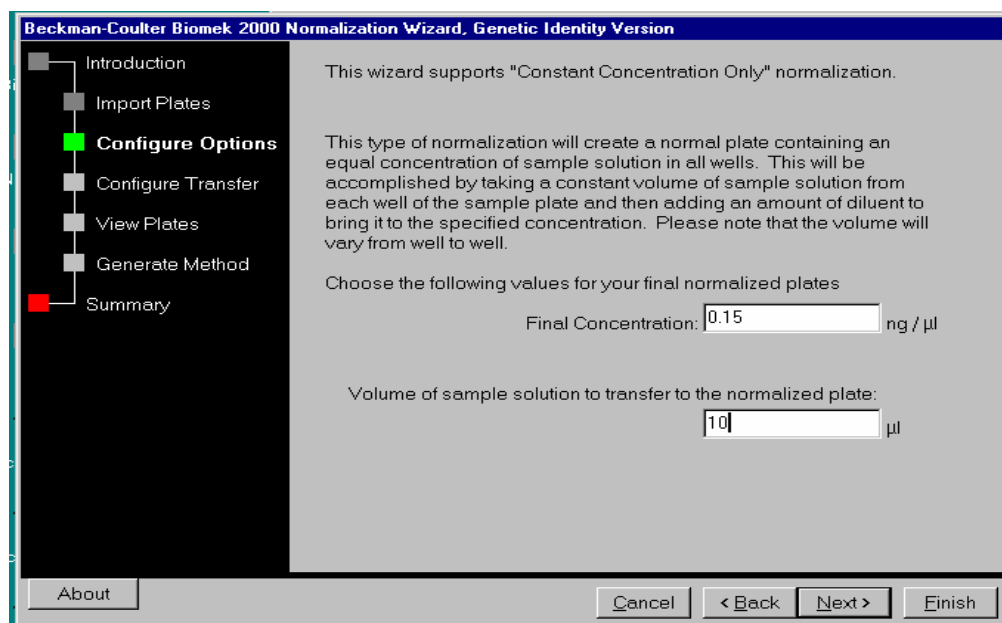

Figure 7. Settings for Final DNA Concentration and the Sample Volume.
- 5.5.3 Change the Final Concentration and the Sample Volume from a target of 0.15 to 0.20 ng/μL for the concentration field and 8 to 10 μL for the volume field as shown in the boxes below on the Configure Options dialog screen (Figure 7); select "Next" to proceed.